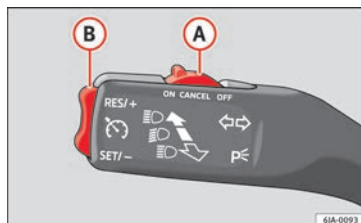

Fig. 97 Turn signal and main beam headlight lever: cruise control buttons.
- Move knob **(A)**  **Fig. 97** to the **ON** position.
- Press rocker switch **(B)** »» Fig. 97 »» page 111 in RES.
- The set speed can be **reduced** by pressing switch **(B)** »» Fig. 97 »» page 111 in SET.
Cruise control is **switched off temporarily** by pressing switch **(A)** »» Fig. 97 »» page 111 in CANCEL or by pressing the brake or clutch pedal.
- Move knob **(A)** »» Fig. 97 »» page 111 to OFF.